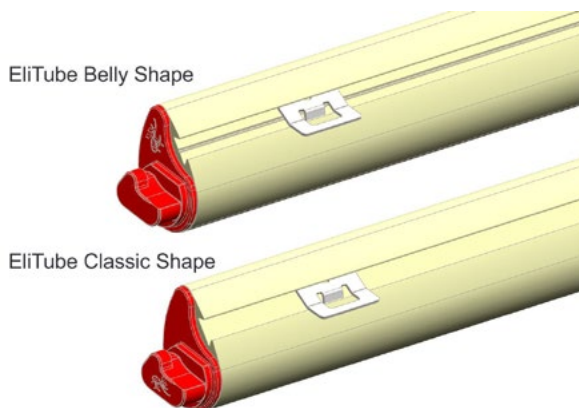

Fig. 3
- Please note that the JETSert must be used with the EliTube Classic Shape (Fig. 3). The JETSert must not be used with the EliTube Belly Shape (Fig. 3). If an EliTube Belly Shape is installed, always consult the SUESSEN engineering department before using a 6.5-mm offset.
- So that the user can identify whether the EliTube present is a “Classic Shape” or a “Belly Shape”, the EliTube Belly Shape has a marking flute in the dovetail groove (Fig. 3).